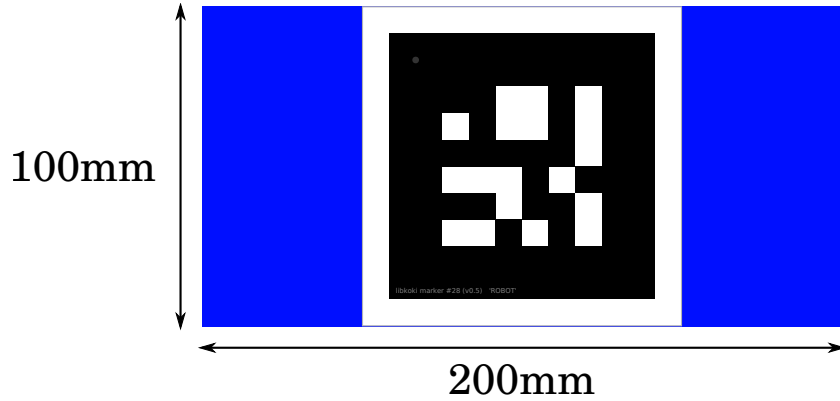

Figure 1: An example robot badge. The blue areas shown are the human-compatible areas.
3.2.1 A “robot badge” is a removable identifier that will be attached to a robot throughout a match. It features the robot’s assigned marker for the match, as well as human-compatible areas to allow spectators to easily associate a robot with its zone. An example of one of these badges is shown in figure 1. The markings in the human-compatible areas are intentionally not specified.
The orientation of the badge mounts is unimportant, but teams are encouraged to position them horizontally as shown in figure 1.